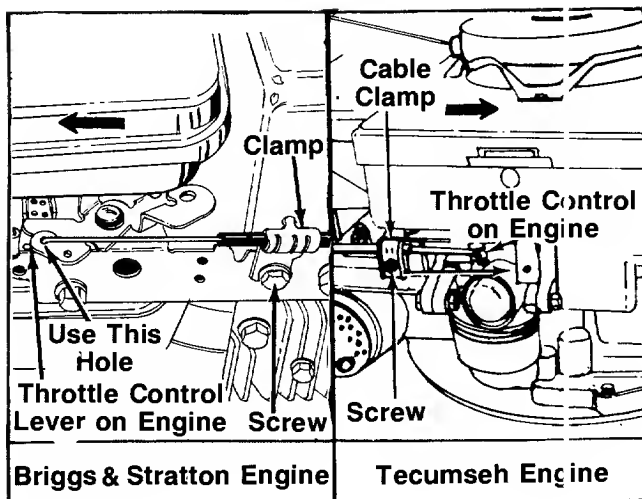

FIGURE 6.
9. Route the throttle control cable under the lower handle and inside the handle. Hook the "Z" end of the throttle control cable into the hole in the control lever on the engine. See figure 6.
10. Remove the screw on the cable clamp shown in figure 6. Slip the control casing under the clamp. Replace the screw, but do not tighten (cable must still move freely beneath the clamp).
11. Push the throttle control lever on the engine to the full open position (as far toward the **outside** of the unit as it will go on Briggs and Stratton engines and as far toward the **front** of the unit as it will go on Tecumseh engines) as shown in figure 6. Tighten the screw to secure the throttle control cable in this position.